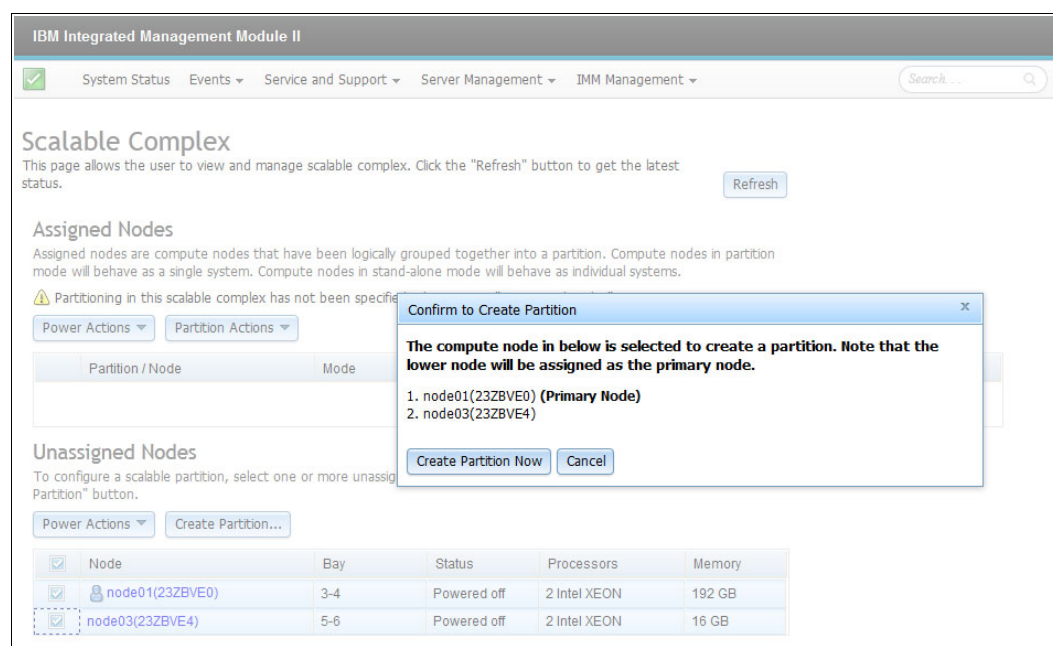

Figure 5-40 Confirm partition creation window
- The Confirm to Create Partition pop-up window provides a summary of which nodes you have selected for the partition and which node will be the Primary Node, as shown in Figure 5-40. Click **Create Partition Now** to complete the process.